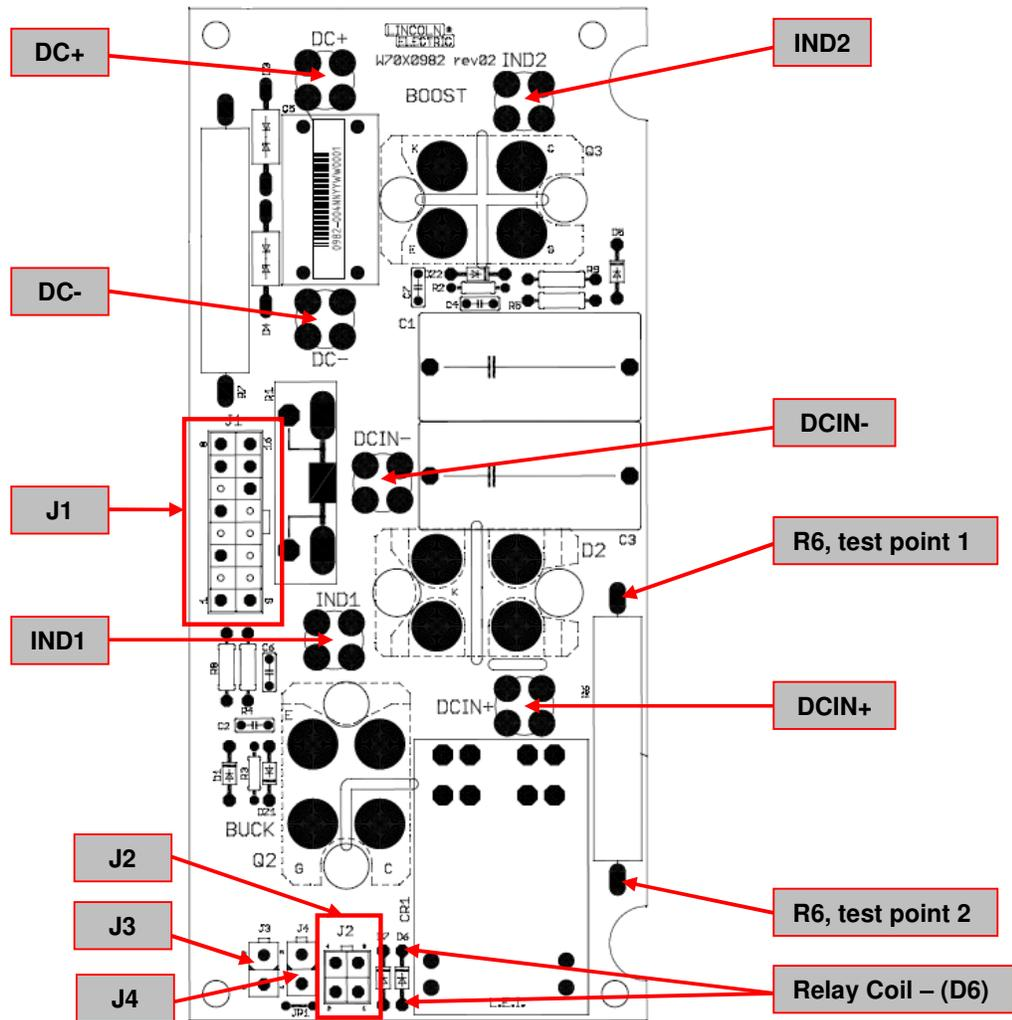

Figure 5 – W05X0982 BUCK/BOOST Board Test
5. Perform the resistance and voltage tests detailed in **Test Table 4** and **Test Table 5**. See **Figure 5** for Test Point locations